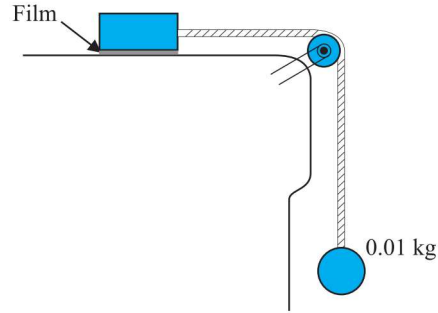

Fig. 10.15 Measurement of the coefficient of viscosity of a liquid.
▶ Example 10.9 A metal block of area $0.10 m^2$ is connected to a $0.010 kg$ mass via a string that passes over an ideal pulley (considered massless and frictionless), as in Fig. 10.15. A liquid with a film thickness of $0.30 mm$ is placed between the block and the table. When released the block moves to the right with a constant speed of $0.085 m s^{-1}$. Find the coefficient of viscosity of the liquid.